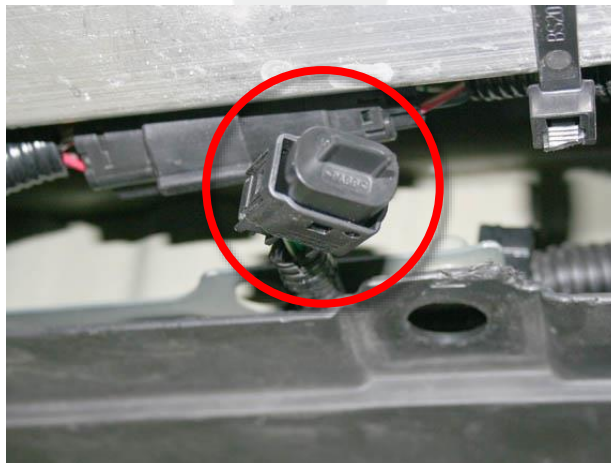

Figure 3
4. Install the connector cap onto the free connector (Figure 3). Use a cable tie to secure the connector out of the way; remove any excess tie.